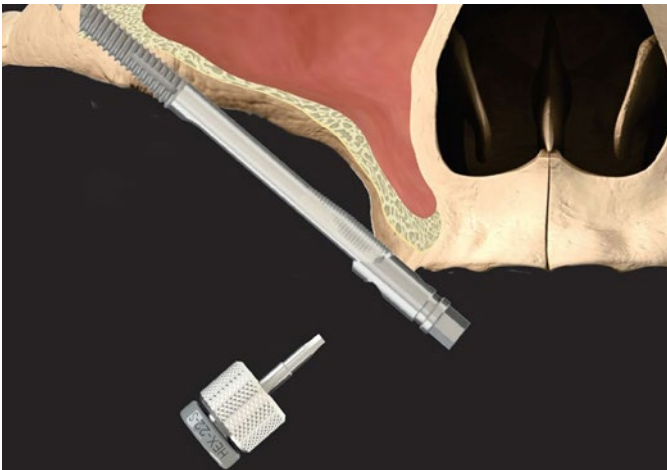

Figure 19
9. The fixture mount screw is then loosened with the dedicated screwdriver and the fixture mount is removed (Figure 19).